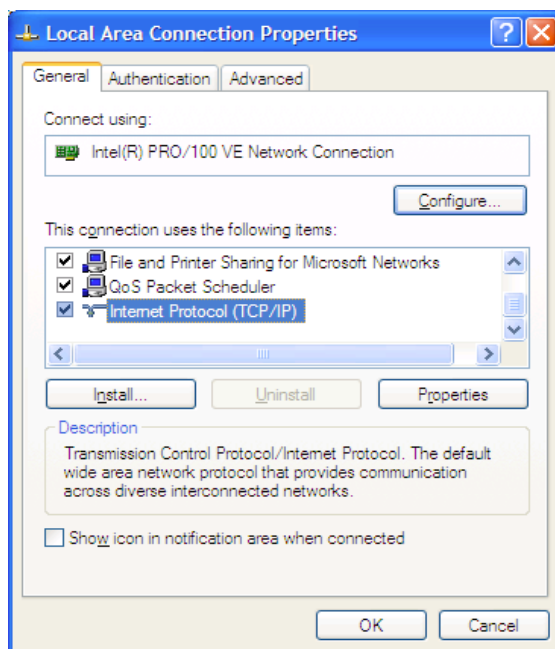
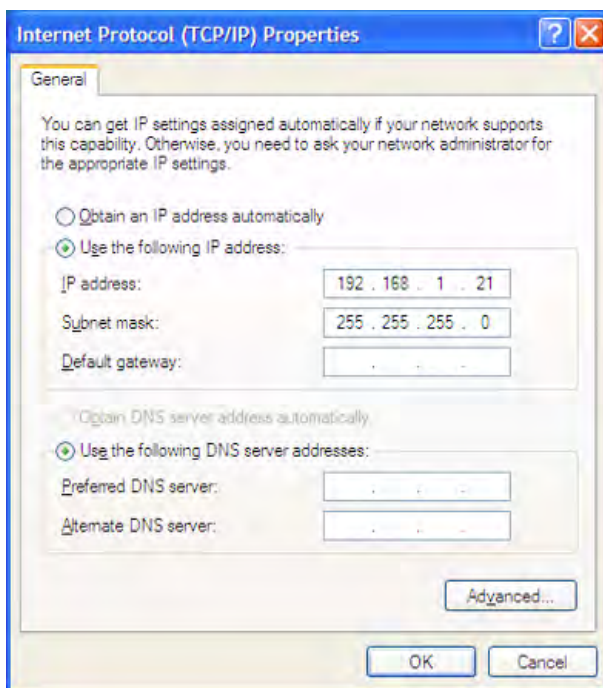

Figure 4. The Local Area Connection Properties Dialog
Figure 5. The Internet Protocol Properties Dialog
6. In the **Local Area Connection Status** dialog box, click the **Properties** button. The **Local Area Connection Properties** dialog box will appear, as shown in Figure 4.
7. In the panel labeled **This connection uses the following items:**, select the **Internet Protocol (TCP/IP)** item to highlight it, and click the **Properties** button (see Figure 4 for an example). The **Internet Protocol (TCP/IP) Properties** dialog box will appear, as shown in Figure 5.